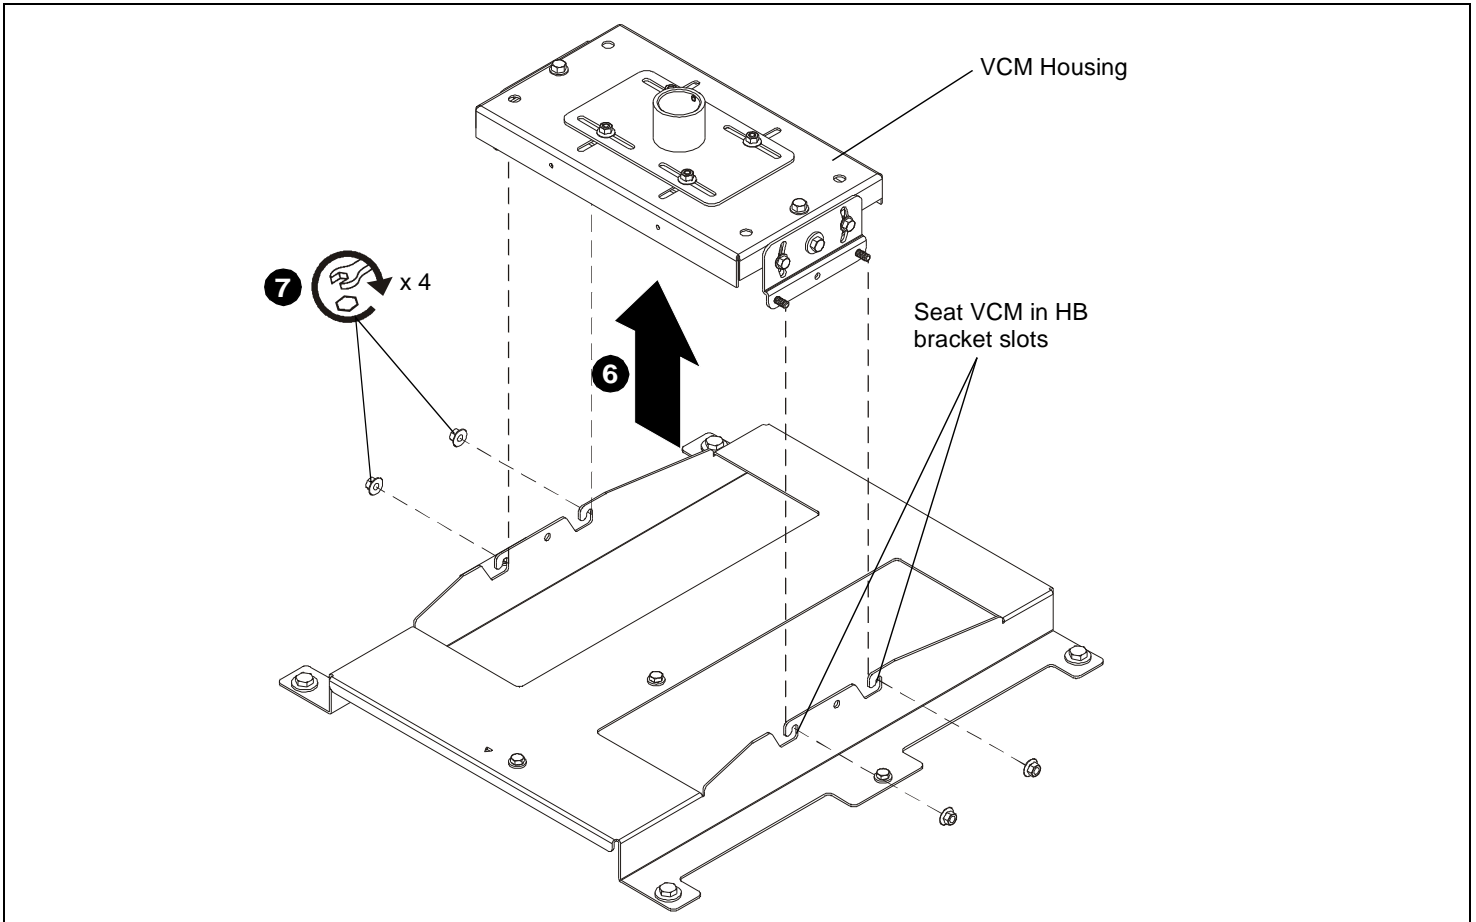

Figure 2
6. With help of assistants, lift the projector and install it to the four studs extending from the VCM housing. Ensure that the VCM housing is seated in slots on HB bracket. (See Figure 2)
7. Tighten the four 5/16" flange nuts. (See Figure 2)